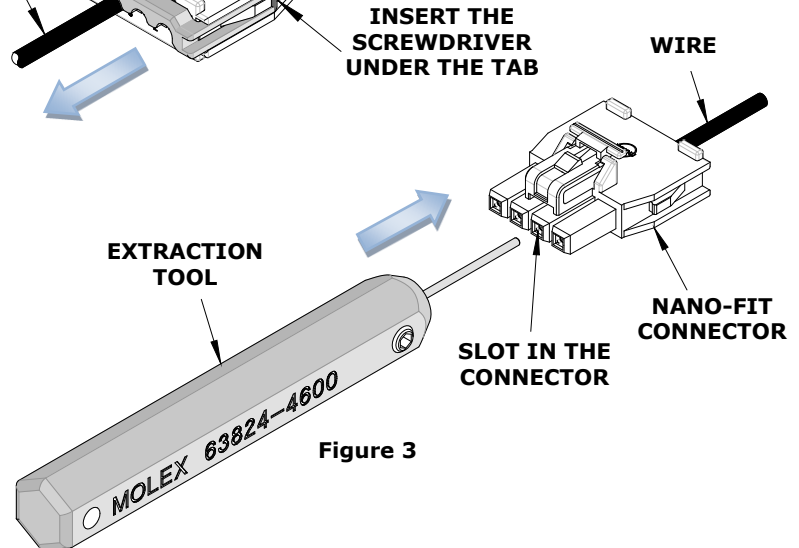

Figure 3
1. Position the blade of the extraction tool into the slot (in line with the crimped terminal to be removed) in the front face of the housing as shown in Figure 3.